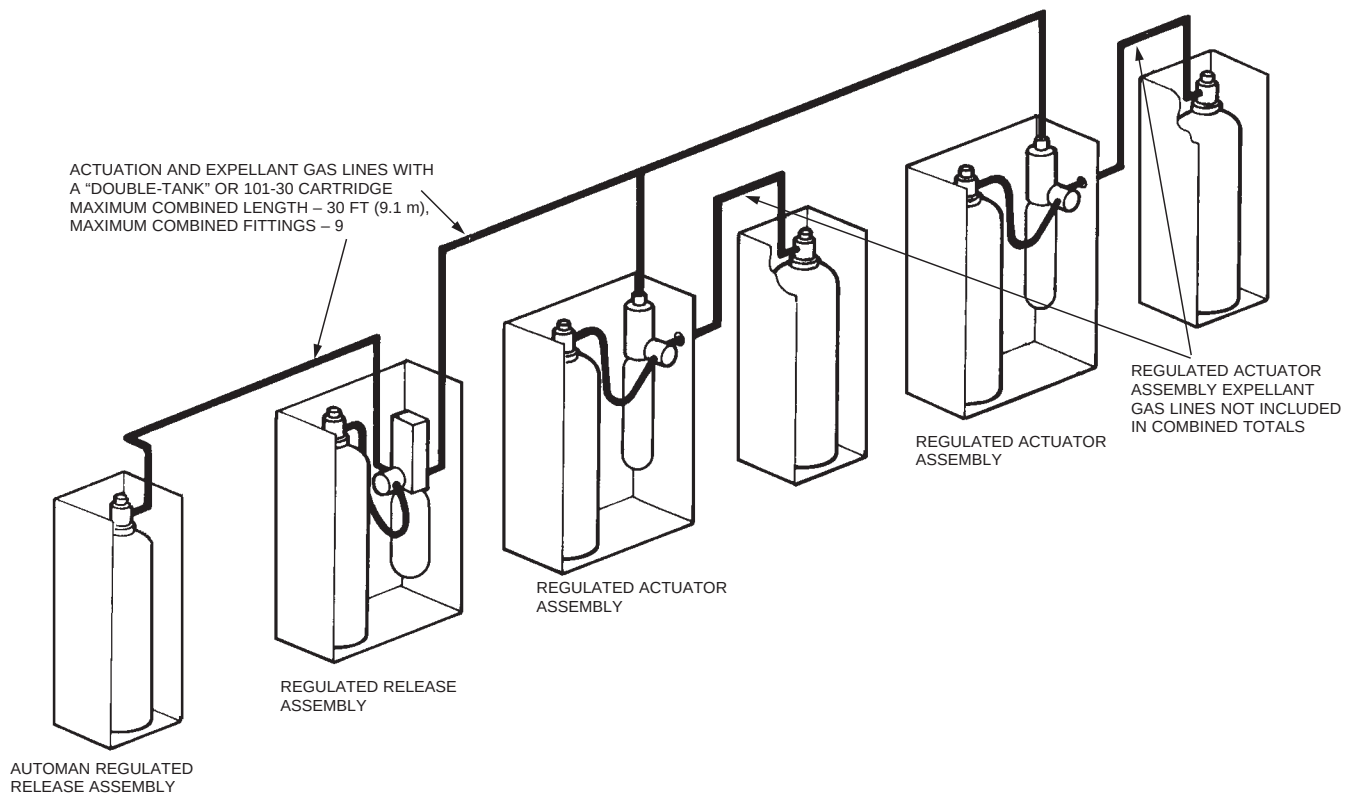

FIGURE 5-17
4. If an expellant gas line is connected to the regulated release assembly along with an actuation gas line, the total combined length of the actuation and expellant gas line **must not** exceed 30 ft (9.1 m). See Figure 5-17.
4. If an actuation gas line is connected to the regulated release assembly along with an expellant gas line, the total combined length of the gas lines **must not** exceed 30 ft (9.1 m) when using a “double-tank” nitrogen cartridge or a 101-30 CO₂ cartridge. See Figure 5-17.